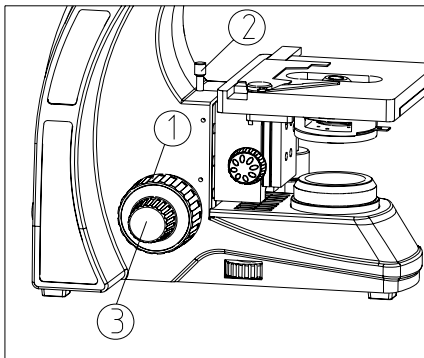

Fig. 10
2. Observe the right eyepiece with right eye. Rotate the coarse focusing knob① until the image appears (see Fig. 10).
3. Rotate the fine focusing knob③ for clear details.